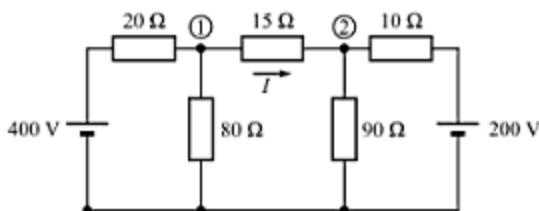

Fig. 3.81
22. Using node-voltage analysis, determine the current I in the $15\text{-}\Omega$ resistor of the network shown in Fig. 3.81. [Ans. 4 A]